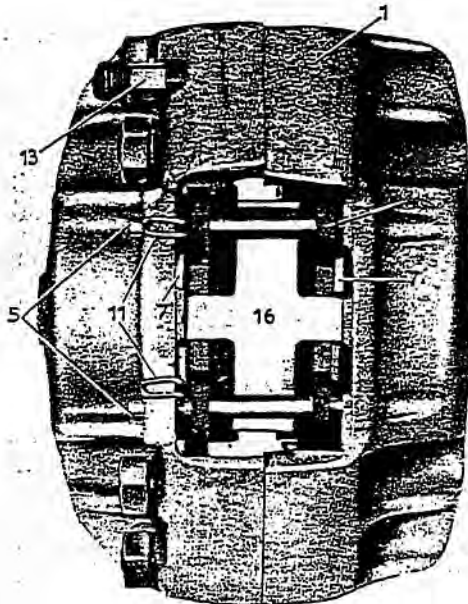

Fig. 42-12/9
2-2816 Fig. 42-12/8
**Note:** The holding fixture should be made in the shop in accordance with the measurements shown in Fig. 42-12/8.